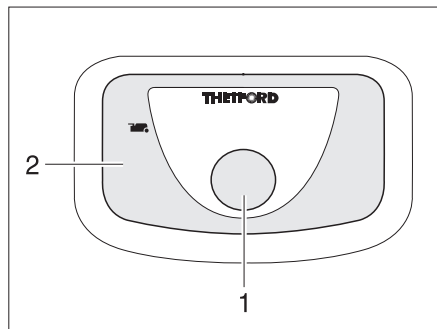

Fig. 131 Flush button/indicator lamp Thetford toilet
- For flushing, press the blue flush button (Fig. 131,1).
- The indicator lamp (Fig. 131,2) goes on whenever the Thetford cassette has to be emptied.